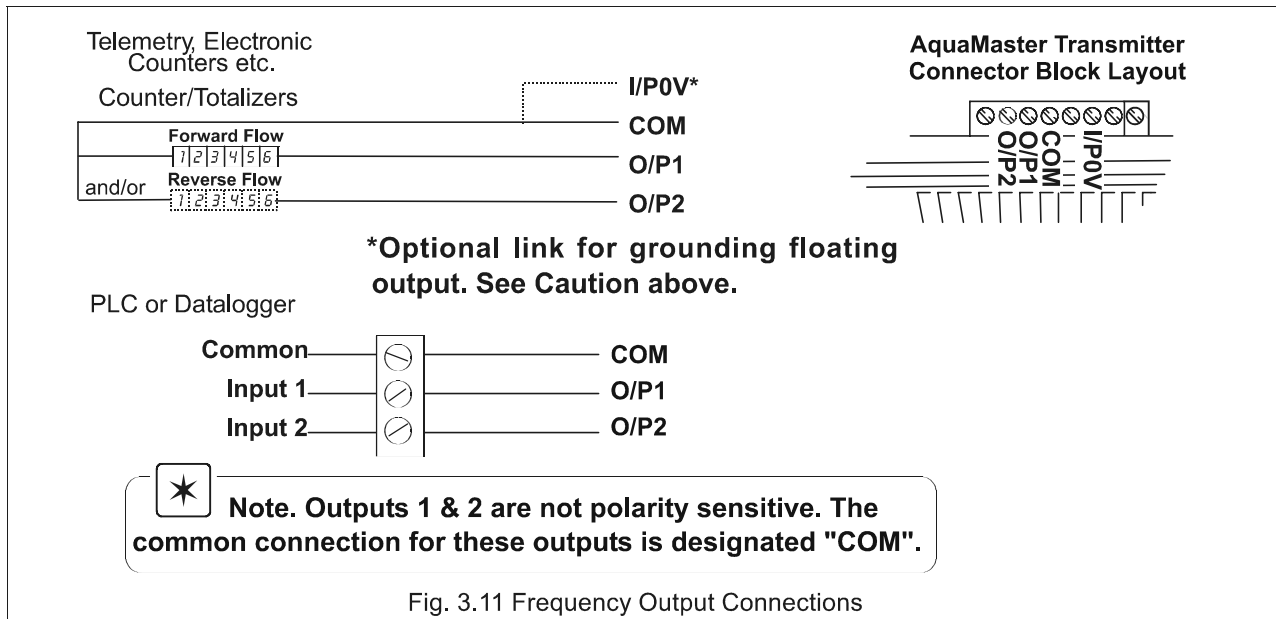

Fig. 3.11 Frequency Output Connections
3.3.1 Frequency Outputs - Fig. 3.11